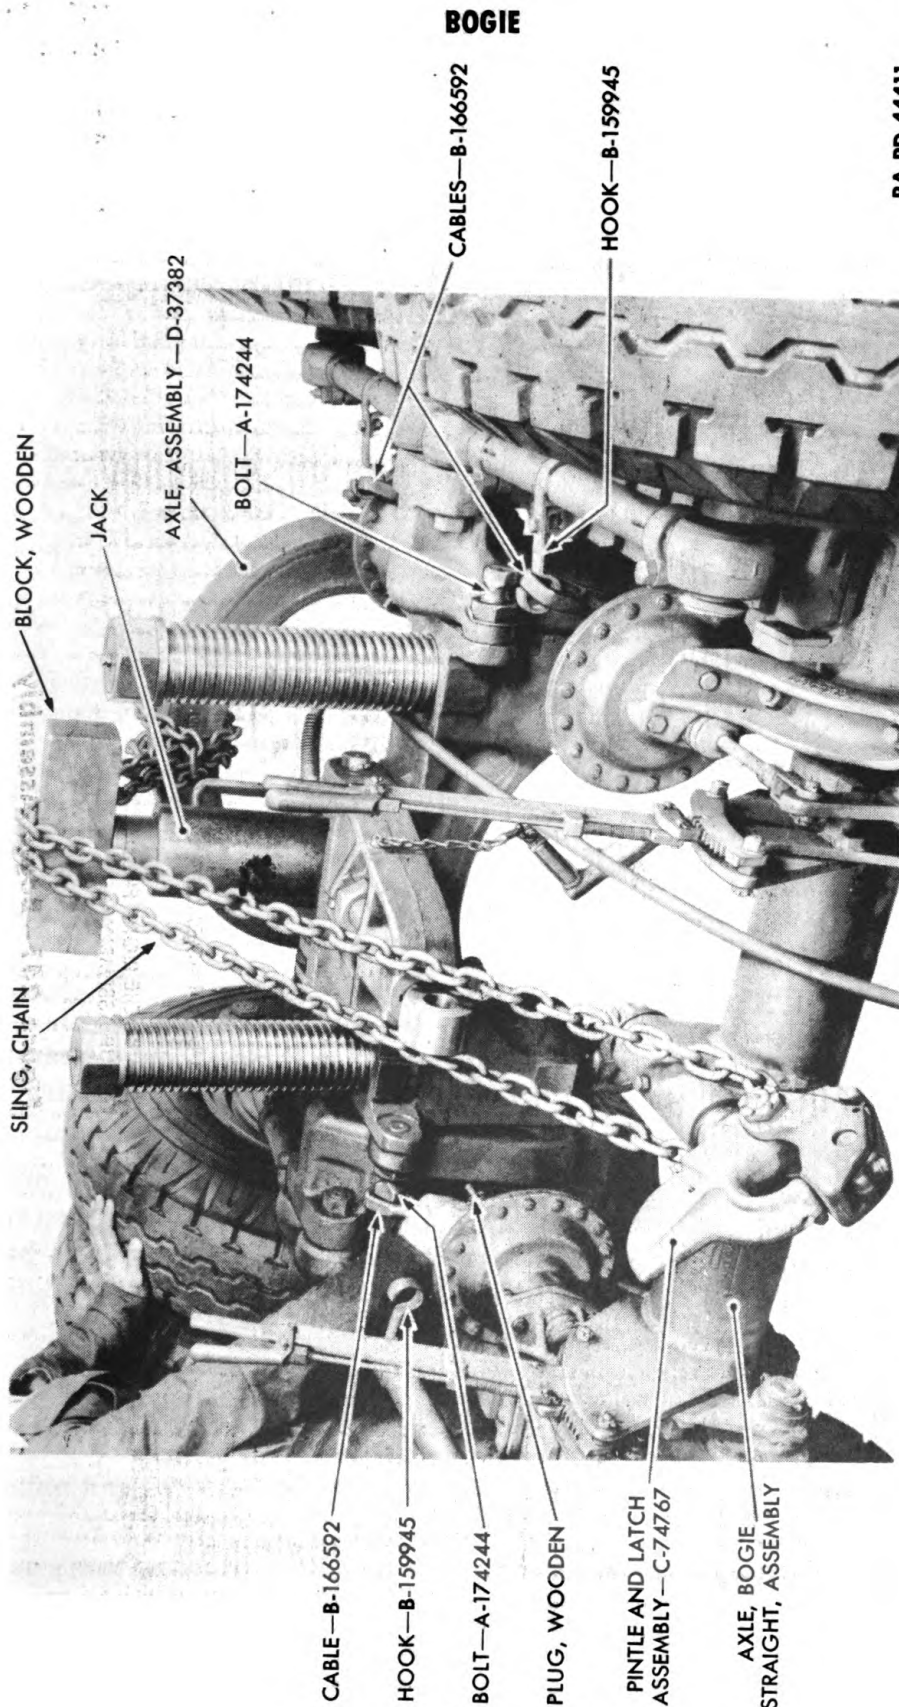

Figure 242—Removing Wheel Supporting Cable—Bogie Off Carriage
a. Place a chain or cable sling around bogie arch axle assembly D37382, and around pintle and latch assembly C74767 on straight axle (fig. 242).
b. Insert a jack and large wood block on bogie crossbeam under chain sling. Jack up block and sling, and depress bogie springs so that the four wheel supporting cables B166592 can be removed from bolts A174244 and placed on hooks B159945 (fig. 242). Place all four cables on their respective hooks.